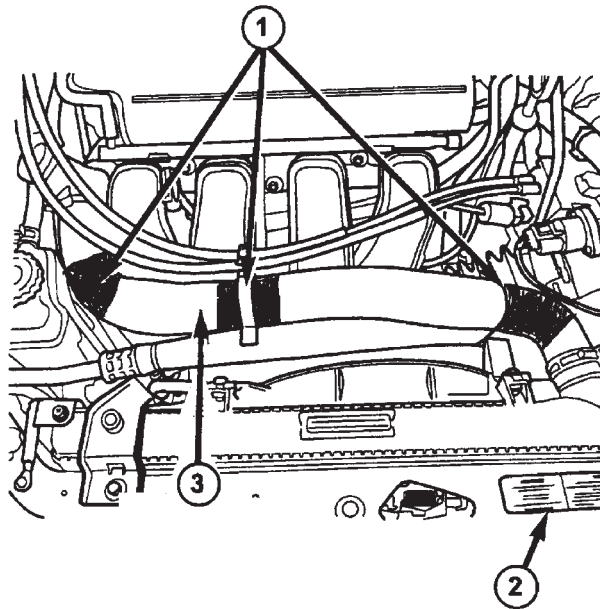

FIGURE 3
7. Install the radiator hose sleeve (05017627AA) by sliding the braided sleeve over the hose. Secure the hose with the three rubber bands provided (Figure 3).
12. Install the new A/C underhood specification label (p/n 05264840AC) over the existing label (Figure 3).